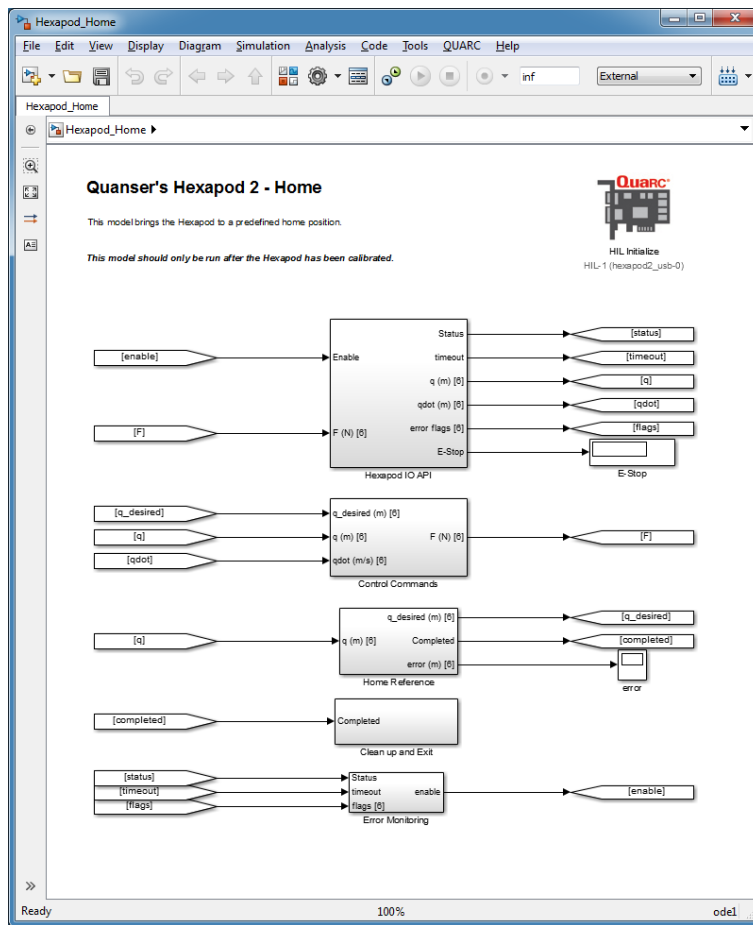

Figure 2.2: Simulink model used to home the Hexapod using QUARC.
Before running Hexapod_Joint_Control.mdl, Hexapod_World_Control.mdl, or any other position-based experiments, the stage of the 6 DOF Hexapod must be in the HOME position. This is defined when each base joint is at its mid-stroke position. The Hexapod_Home.mdl Simulink model, shown in Figure 2.2, is ran with QUARC to center all the linear joints at the base.
3. Open the Simulink model called Hexapod_Home.mdl, shown in Figure 2.2.